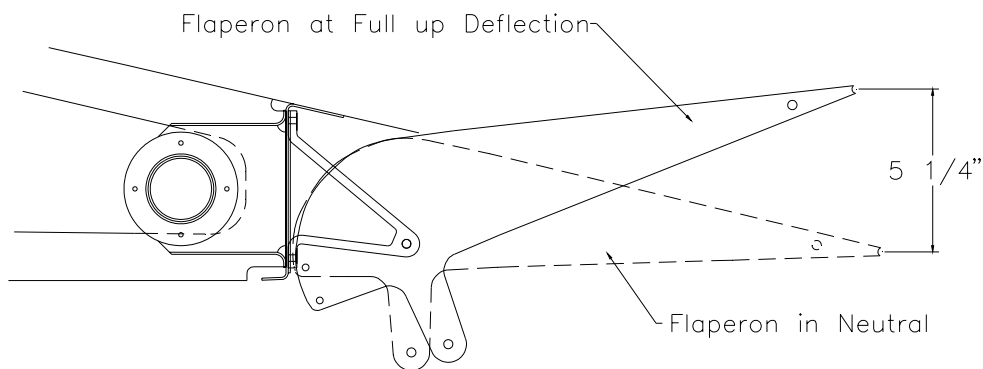

Figure 20.6.12
32) Adjust the right wing flaperons so that the trailing edge is 5 1/4" up from neutral position. Figure 20.6.12.